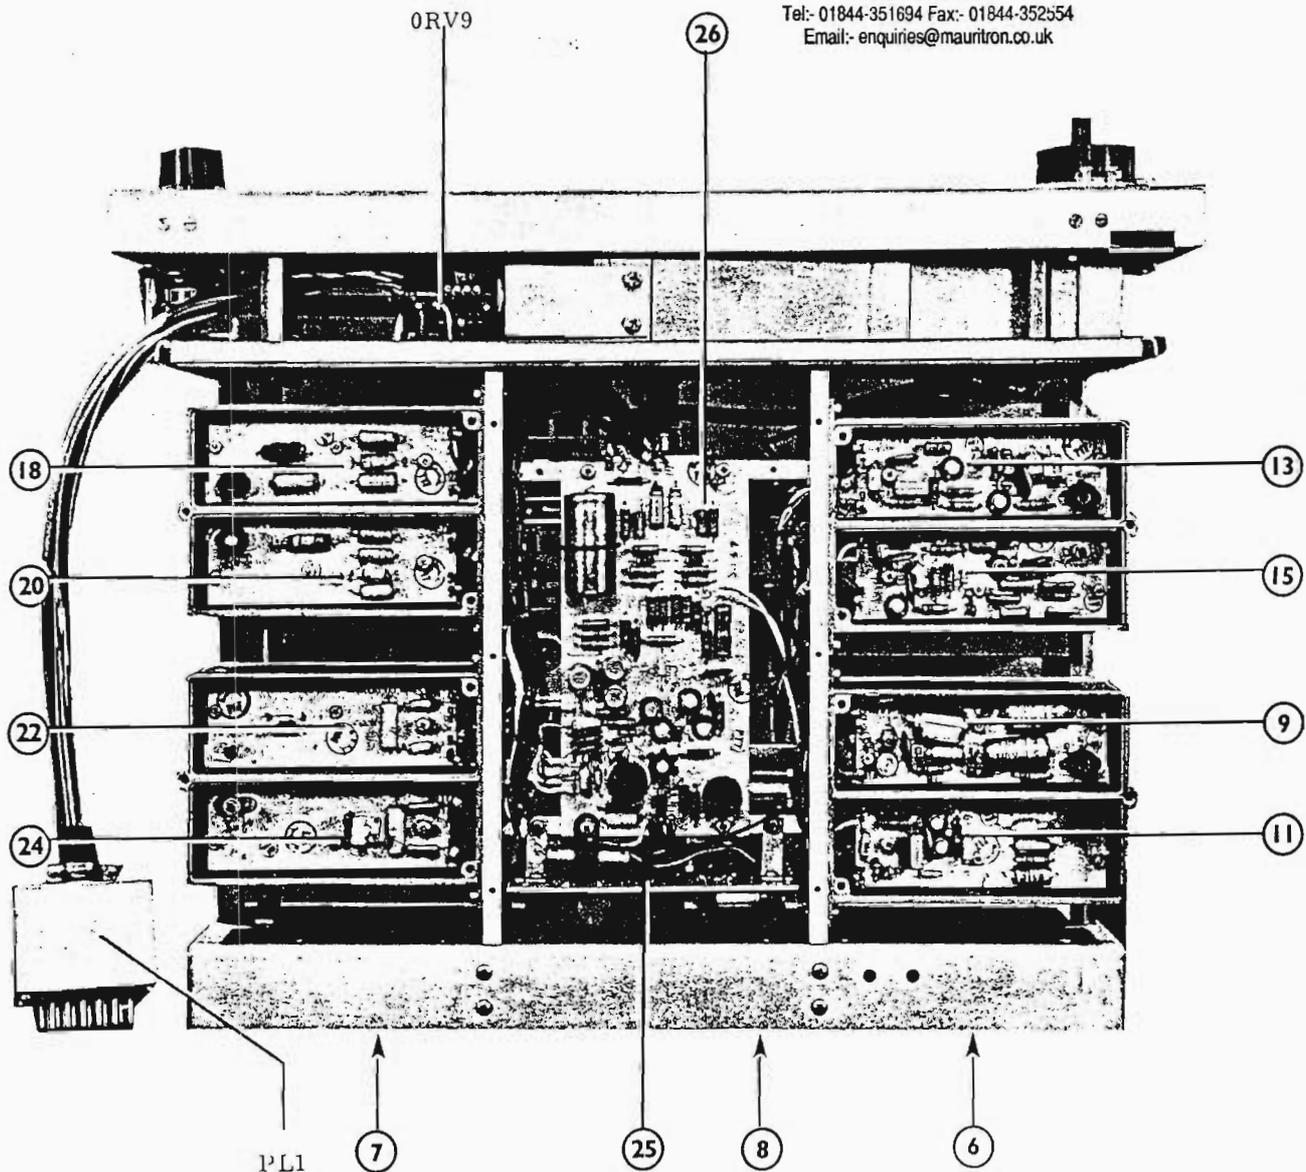

Fig. 4.3 R.F. unit with covers removed—top
Oscillators and output filters; boards (9) to (24): These boards are contained, in pairs, in cast boxes bolted on either side of the r. f. unit; oscillators on the left and output filters on the right. See Figs. 4.3 and 4.4. Access to the component side of each board may be obtained by